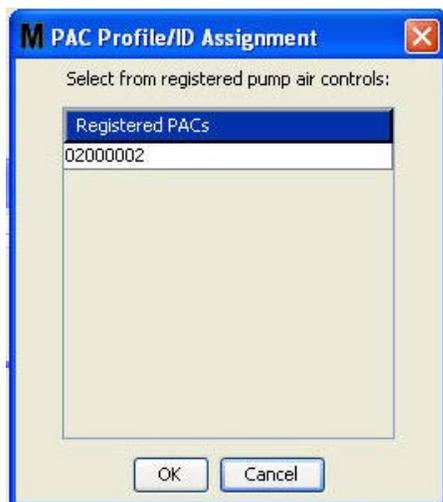

FIG. 127
4. After you have named the PAC, click the link button. The Profile/ID Assignment screen shown in FIG. 127 displays. From the list of registered Pump Air Controls, select a PAC from the list. Click OK to close the screen and save the changes. A complete description of the PAC registration procedure is provided in the Pump Air Control instruction manual. Instructions are also provided in the How to Register a Pump Air Control section in Appendix A of this manual on page 206.